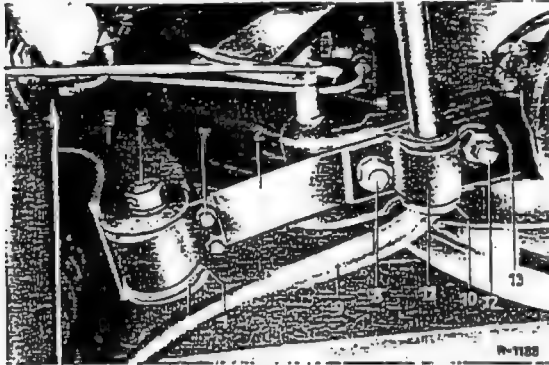

Fig. 33-3/3
1. Loosen the two hexagon screws (clamping screws) (7) on the flat spring (2) for the front axle longitudinal support (Fig. 33-3/3).